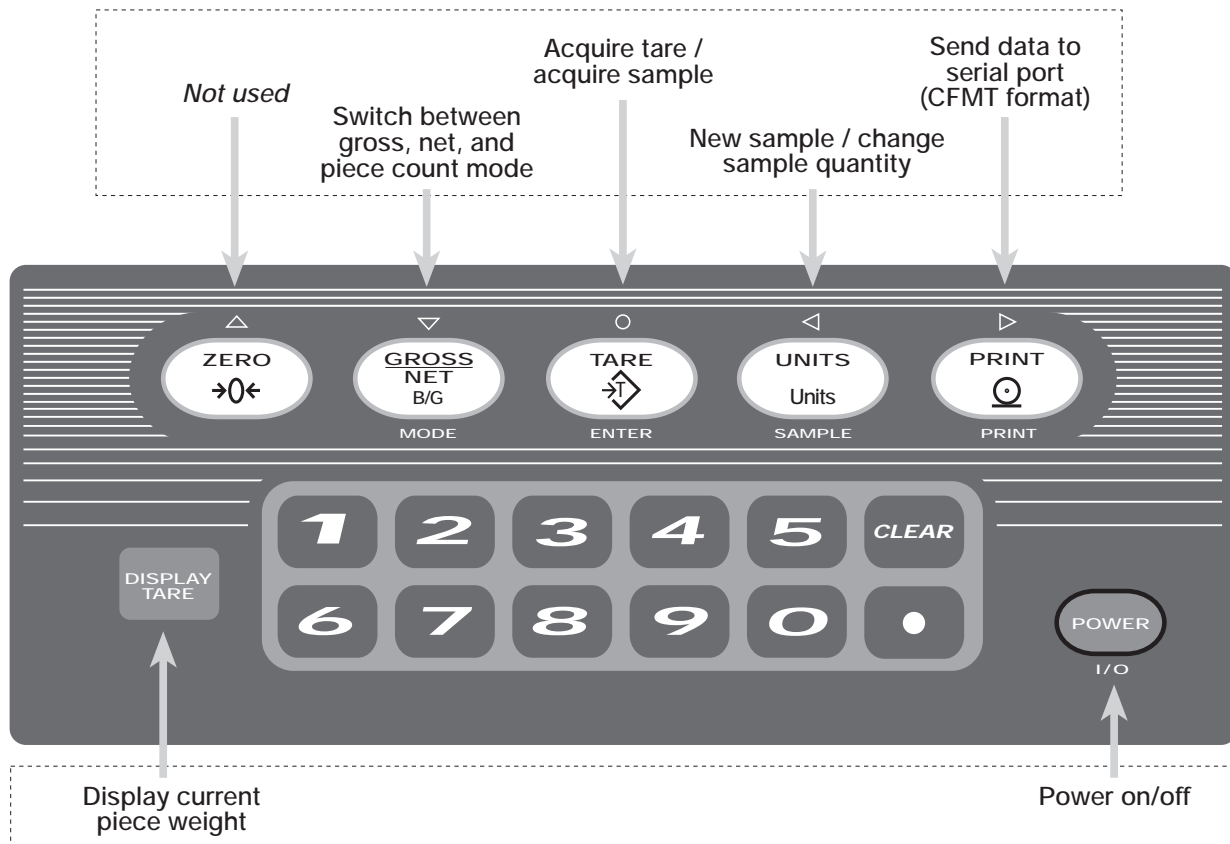

Figure 6-1. Front Panel Key Functions in Piece Count Mode
Piece count mode is entered by pressing the MODE (GROSS/NET) key from normal weighing mode. In count display mode, the display shows the number of parts rather than weight, the arrow annunciator at the right side of the LCD display points to piece count (PC), and pressing the PRINT key sends the CFMT print format data string to the serial port (see Figure 6-1 on page 30).